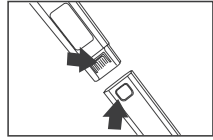

Fig. 4
2. Push the lower tube firmly into the upper tube, until the tubes “click” (Fig. 4) into place.